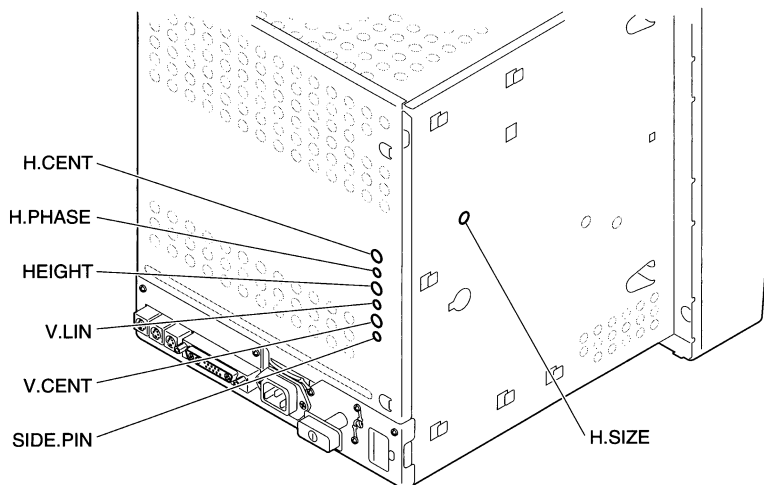

Figure 3 Horizontal and Vertical Adjustment Controls
2. FIGURE 3. Using the hex alignment tool, turn the H.SIZE control until the raster is 203 mm wide.
3. FIGURE 3. Using the insulated screwdriver, turn the H.CENT control until the raster is centered (left to right) in the display area.
5. FIGURE 3. Measure the black margin on the right side of the test pattern. The black margin should measure 7 to 8 mm from the right edge of the white raster to the edge of the bezel. If it is not, use the insulated screwdriver to turn the H.PHASE control until the black margin is 7 to 8 mm wide.
2. FIGURE 3. Turn the HEIGHT control until the raster is 276 mm high.
3. FIGURE 3. Turn the V.CENT control until the raster is centered (top to bottom) in the display area.
6. FIGURE 3. Turn the V.LIN control until the boxes at the top of the display are the same size as the boxes at the bottom.